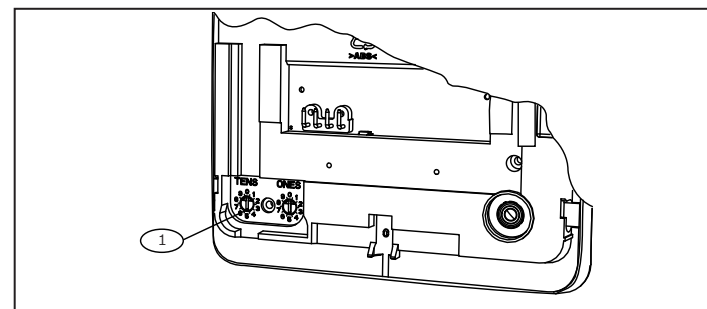

Figure 2.3: Switches location
3. Look at the back of the keypad, and locate the switches. Refer to *Figure 2.3*.